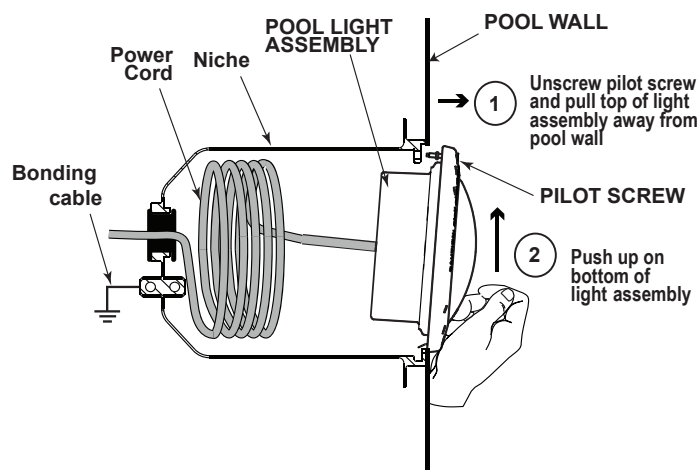

Figure 1. Removing the Jandy WaterColors Light Assembly for Light Engine Replacement
3. To remove the light assembly, unscrew the special pilot screw at the top of the face ring, remove light assembly from niche and gently place assembly on the deck. It is not necessary to drain down the pool. See Figure 1.